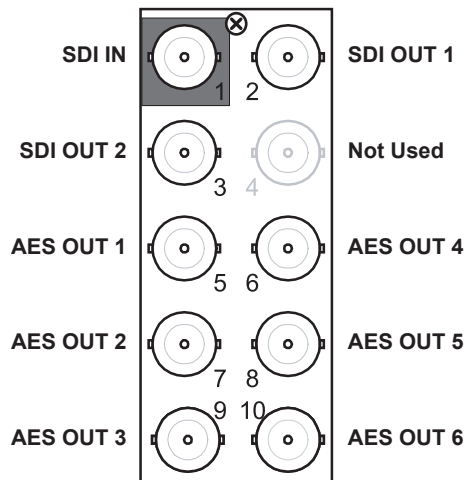

Figure 5.2 Cable Connections for the SFS-8622-A
**Figure 5.2** illustrates the cabling designations for one SDI input, two SDI outputs, and six AES-3id 75ohm unbalanced outputs. The **AES I/O Config** is set to **0 in, 6 out**.